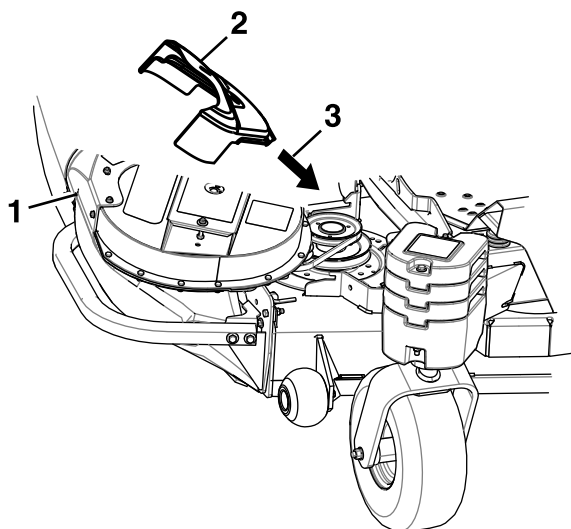

Figure 10
4. Position the belt cover at an angle and slide it under the deck frame (Figure 10).